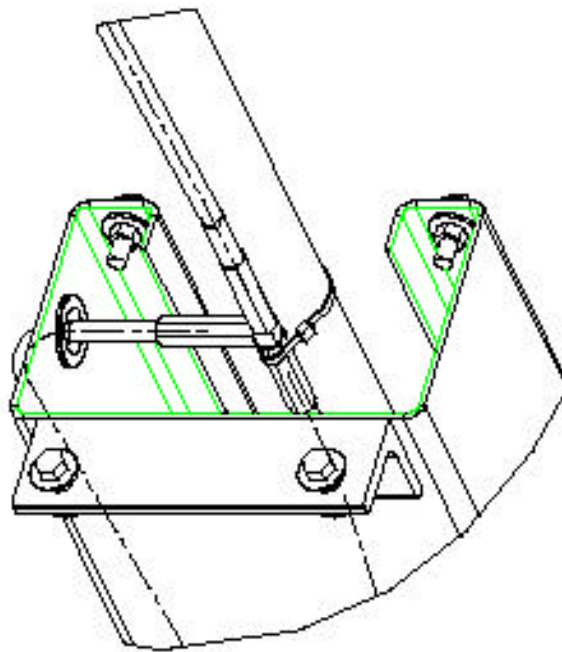

Figure 14
- E. To prevent the carriages from rubbing the hoses, pull the hoses upward taking out any slack between the cylinder fitting port and the cylinder mount. Secure the hoses to the mainside cylinder with wire tie around the tee and the cylinder, the tee should be positioned to aim directly out through the grommet, figure 14. Secure the hose to the offside cylinder at approximately the same height with a wire tie.